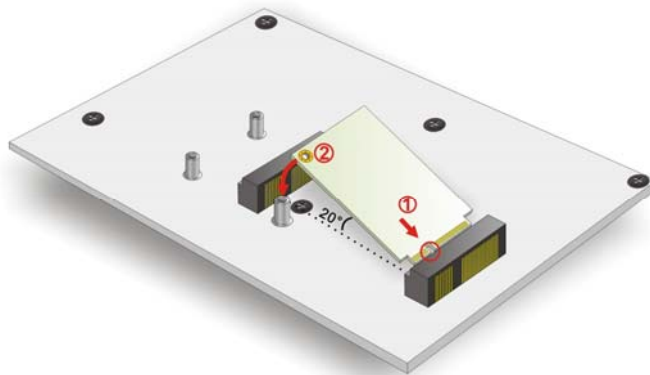

Figure 3-8: Insert the Full-size PCIe Mini Card into the Socket at an Angle
Step 4: Line up the notch on the PCIe Mini card with the notch on the connector. Slide the card into the socket at an angle of about 20° (**Figure 3-8**).